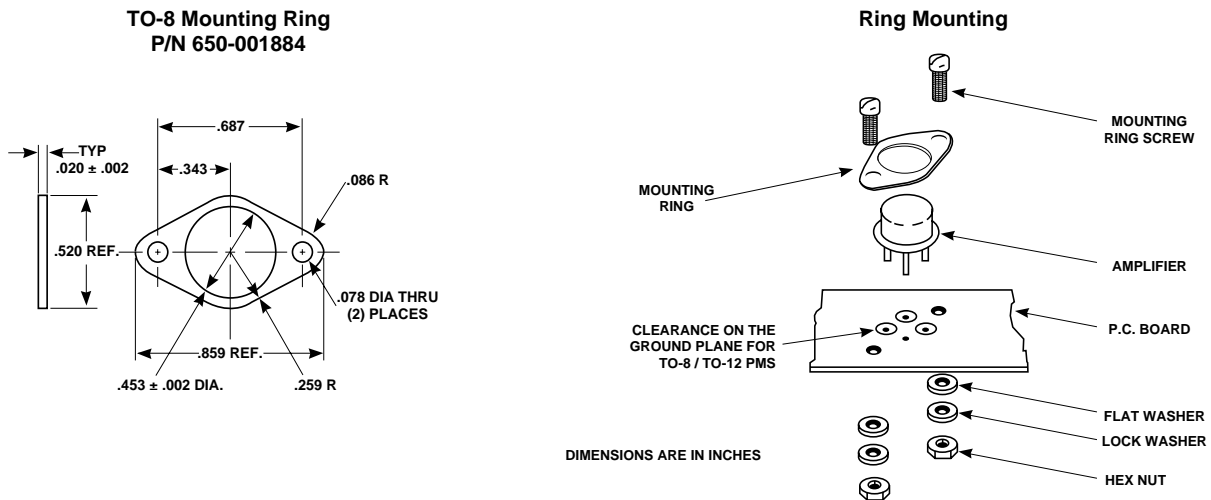

Figure 1. Mounting Kit for Standard TO-8 Packaged Oscillators
Figure 1 shows the standard mounting kit for TO-8 oscillators. Also shown is the correct installation for PC board mounting.
directly on the circuit board ground plane with the Tune Voltage, RF output and DC Voltage pins (see Figure 1) passing through the board to the circuit on the other side. Be careful that these pins do not short out to the ground plane.
3. Using the clamp provided, secure the module firmly to the ground plane. Figure 1 shows the proper positioning and installation of the mounting clamp. This step ensures positive contact between the